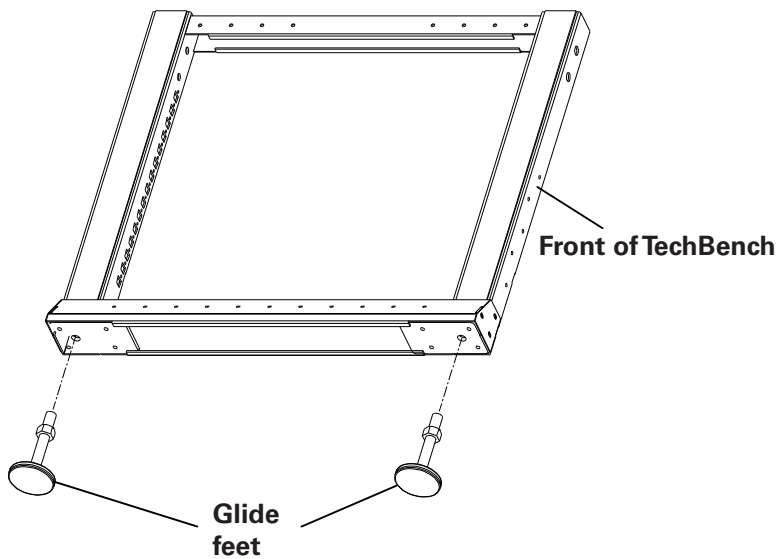

Figure 1a
1. Using a ½" open end wrench, remove the Glide Feet from the TechBench. Place the wrench on the "flats" located on the threaded shaft and back the Glide Foot out. See figure 1a and 1b.